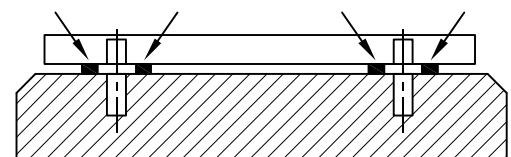

Fig.2 Foundation, baseplate and fitting the shims
- Place the pumpset on the concrete and by adding or removing shims under the baseplate align the discharge flange horizontally by using a spirit level on it as shown on **Fig.2** Make sure it is completely horizontal.